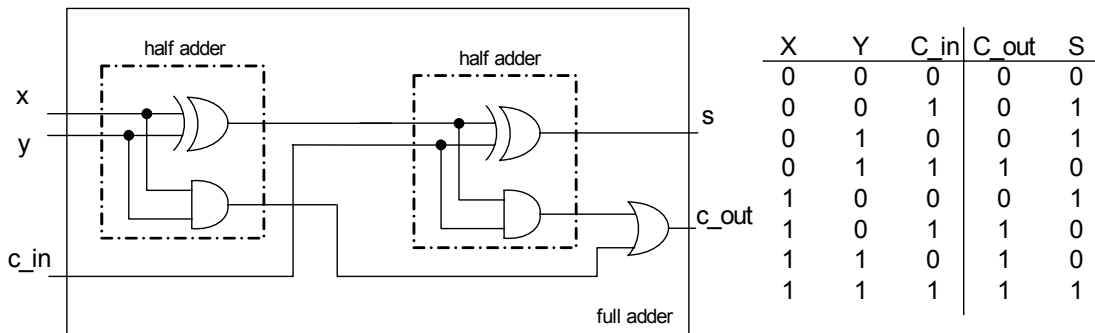
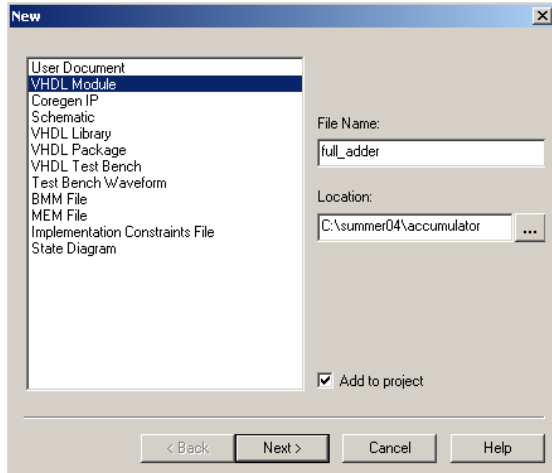
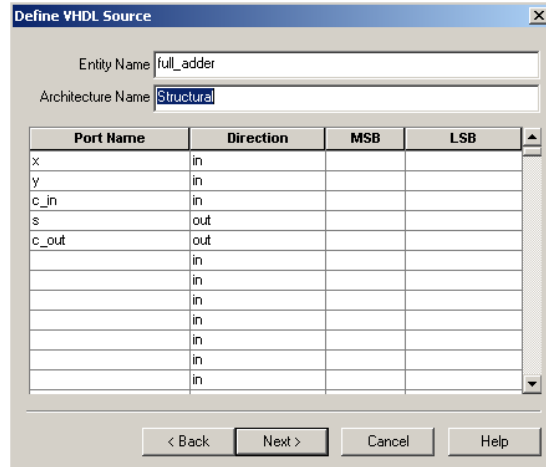
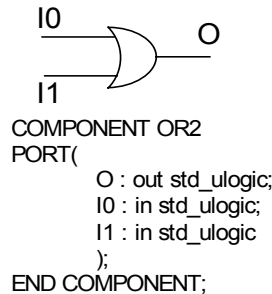

Figure 2; Logic diagram of a 1-bit wide full adder and truth table.
Figure 9
Figure 10
Figure 11; OR gate and its component declaration
A basic full adder logic diagram is shown in figure 2, including its truth table. A full adder does include the “*carry in*” as an input. It is build by two half adders and an additional OR gate. Note that figure 2 is showing a full 1 bit adder. In order to build full X-bit adders (where X represents any integer) we must put together several 1-bit full
1. Creating a new source file; Go to **Project** → **New Source**, select **VHDL Module** and enter the name “*full\_adder*” as shown in figure 9. You will get a window as shown in figure 10, to define the VHDL source; fill out the architecture name as *structural* and declare the inputs and outputs of the full adder circuit following the logic diagram in figure 2. Click **Next** → **Finish**. The result will be a new source file where the skeleton is ready for you to fill it out with the description of the circuit.
2. Declaring components; Following logic diagram in figure 2, you will need two kind of components, a half adder and an OR gate. Figure 11 shows the OR gate and its component declaration. Remember that a component declaration goes between “*architecture structural of full\_adder is*” line and the “*begin*” line.
3. Connecting components; Component instantiation (section where you describe the connections between components) goes between the lines “*begin*” and “*end structural*” in the VHDL description of the system. Follow the logic diagram in figure 2 to describe the connections between the components and inputs/outputs of the full adder.